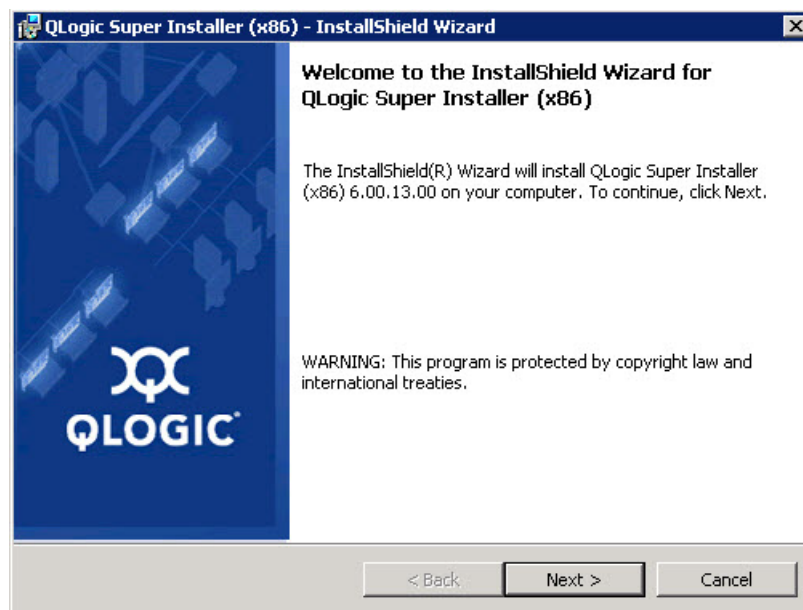

Figure 3-2. QLogic InstallShield Wizard: Welcome Window
3. In the QLogic Super Installer—InstallShield® Wizard's Welcome window (Figure 3-2), click **Next**.